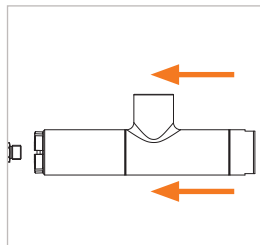

Figure 13
- ▶ With the pilot pressure applied, insert the connector straight onto the test piece until the front seal (Pos. 7) touches the test piece (*Figure 13*). Doing so will prevent any damage to the front seal caused by any sharp edges on the test piece and ensure a correct connection.